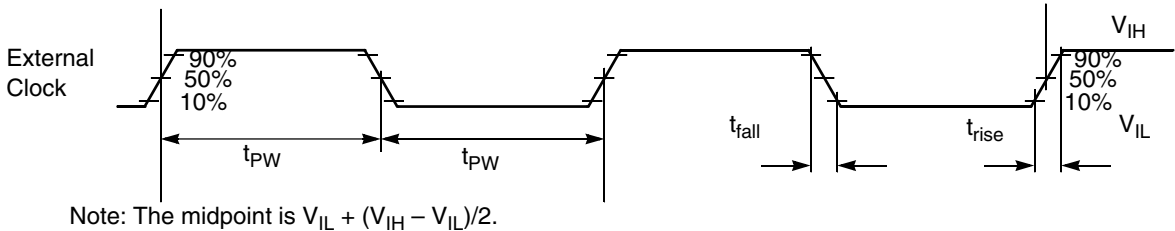

Figure 7. External clock timing
1. See Figure 7 for detail on using the recommended connection of an external clock driver.